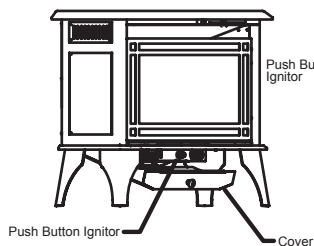

Fig. 4
- Step 1 – Locate the Push Button Ignitor by lowering the cover on the bottom of the stove. (Fig. 4)